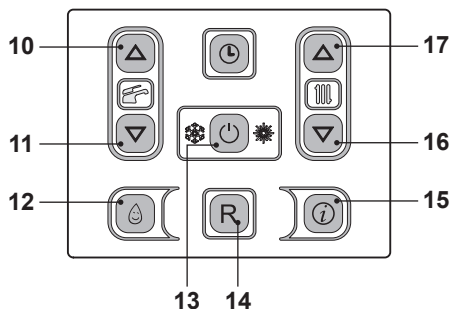

Fig. 7.11
- Press the 13 key for 2 seconds until the symbol appear on the display Fig. 7.11.
- Switch off the boiler by pressing the 13 (Fig. 7.11) key for 2 seconds until the  symbol appears on the LCD display (Fig. 7.10).
- Press the 14 key for 2 seconds until  symbol appear on the display Fig. 7.11. The LCD display displays the boiler temperature (primary circuit) and the  symbol; the °C symbol slowly flashes Fig. 7.12.
Press the reset key on the boiler control panel 14 (Fig. 7.11) to reset its functioning.